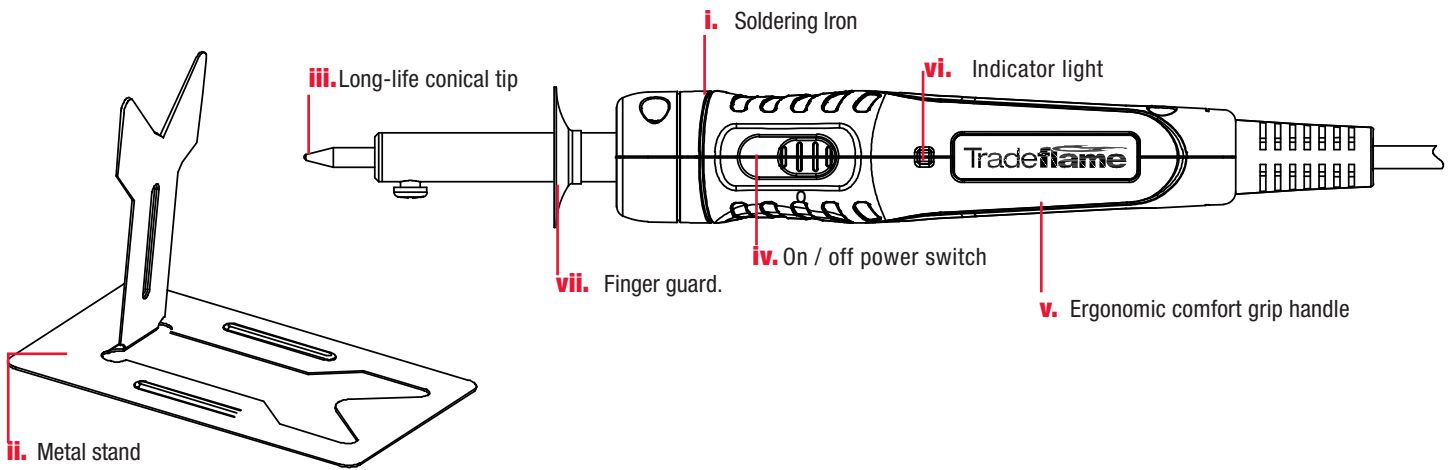
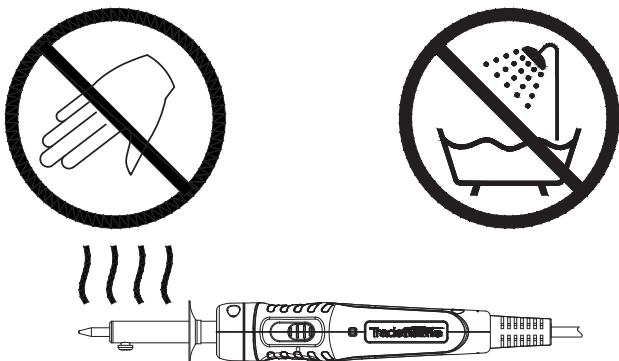

Fig. 1
Fig. 4 - WARNING - hot tip when in use, do not touch, keep Soldering Iron clean and away from oils and lubricants. Do not immerse Soldering Iron in water
- Indoor use. Do not expose Soldering Iron to rain or wet conditions. Water entering a Soldering Iron will increase the risk of electric shock (Fig. 4)
- Keep handles and grasping surfaces dry, clean and free from oil and grease. (Fig. 4) Slippery handles and grasping surfaces do not allow for safe handling and control of the Soldering Iron in unexpected situations.
- Keep hands clear of the tip serious burns can occur if skin contacts tip (Fig. 4)
- To reduce the risk of fire, personal injury, and product damage due to a short circuit, never immerse your Soldering Iron, battery pack or charger in fluid or allow a fluid to flow inside them. Corrosive or conductive fluids, such as seawater, certain industrial chemicals, and bleach or bleach-containing products, etc., can cause a short circuit. (Fig. 4)
- To reduce the risk of injury, always wear safety goggles or glasses with side shields. Keep hands and fingers behind finger guard (Fig.1 / vii). Serious burns could occur if skin contacts a hot tip.(Fig. 4)